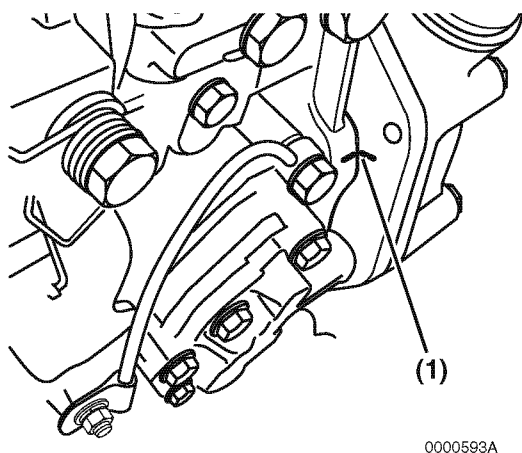

Figure 7-19
22. Locate the mark stamped into the upper outside mounting boss of the fuel injection pump. Highlight this mark and make a corresponding mark on the gear case or front plate (Figure 7-19, (1)).